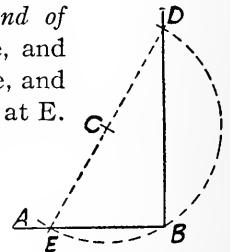

Fig. 576
3. *To draw a perpendicular from a point at the end of a line* (Fig. 576).—Let AB be the given straight line, and B the given point. Take any point C above the line, and with the radius CB describe an arc DBE cutting AB at E. Draw ECD; then draw DB, which will be the required perpendicular.